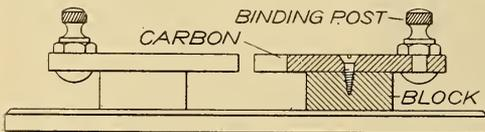
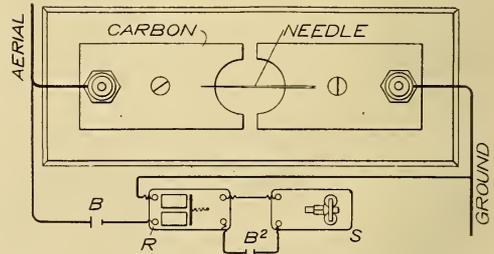

FIG. 2.
FIG. 3.
inch high. Glue the blocks on a base of suitable dimensions (Fig. 2) so that the ends of the carbons are about one-eighth of an inch apart. Place a common sewing needle between the carbons and the current detector is ready to be connected as shown in Fig. 3.
References to Fig. 3 are: (A), binding posts; (B), battery; (R), relay; (S), receiver, or Morse recorder. It might be well to state that (B2) had best be a crowfoot battery.
The ten receptacles, ( $R_1$ ), ( $R_2$ )—( $R_{10}$ ), the two small binding posts, ( $P$ ) and ( $P'$ ) and the two large binding posts, ( $B$ ) and ( $B'$ ) should all be fastened to the board in the positions shown in Fig. 2, then the bases from the 11 switches should be removed and the arms and points ( $MS$ ), ( $S_1$ ), ( $S_2$ )—( $S_{10}$ ) mounted on the board as shown. (These switches may be screwed to the board on their bases if time is short and best appearance is not desired). The connections shown by the dotted lines are to be made with annunciator wire fastened to the under side of board by staples, and passed through holes in the board to the binding screws. Small pieces of wood should be fastened to the under side of board at the corners to keep the wires from touching any surface upon which the board is resting. A piece of five ampere fuse wire, ( $F$ ), should be connected